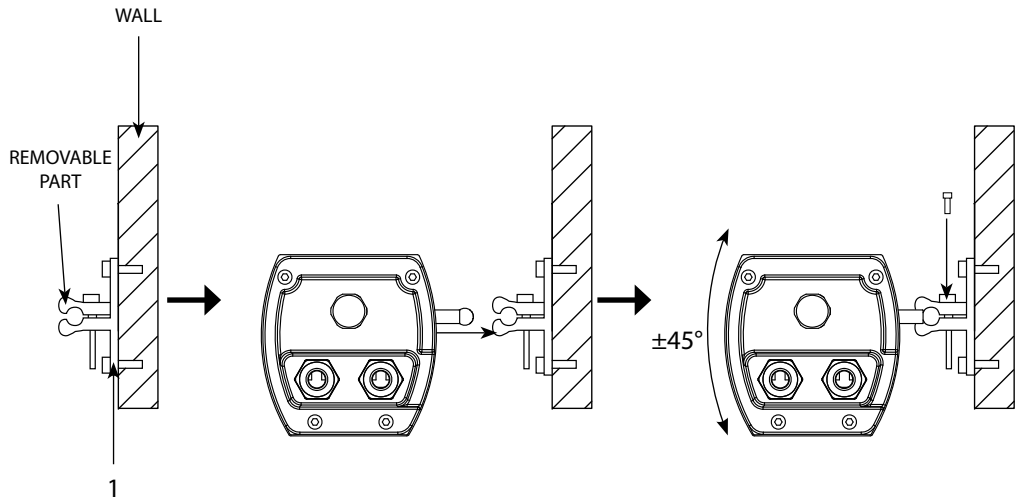

Fig.2
ARC PLOT81TRI may be set up on a solid and even surface (fig.2). The unit can also be mounted with to a support brackets (1), the unit can be on different surfaces such as walls and ceilings. The mounting place must be of sufficient stability and be able to support a weight of 10 times of the unit's weight.